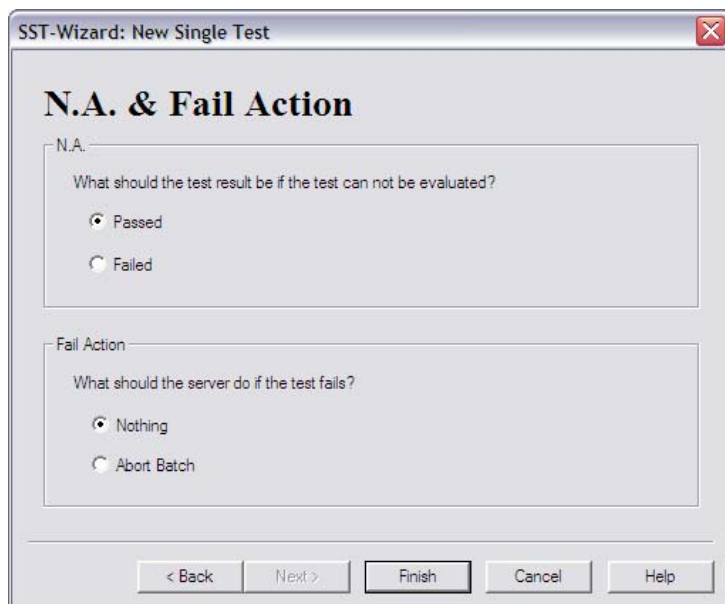

FIGURE 3-21: SST properties **N.A. & Fail Action**.
- In **N.A. & Fail Action** parameters can be set to define an action if the SST fails (FIGURE 3-21). The fail action is not applicable for Automated Method Scouting because the SST is generated after the batch has run. In the case of peak resolution, if the test cannot be evaluated, it is recommended to set the **N.A.** (Not Available) value to **Passed**. This is to avoid a failed SST in the case of the last or first compound whereby the resolution cannot be determined to the next or previous compound.